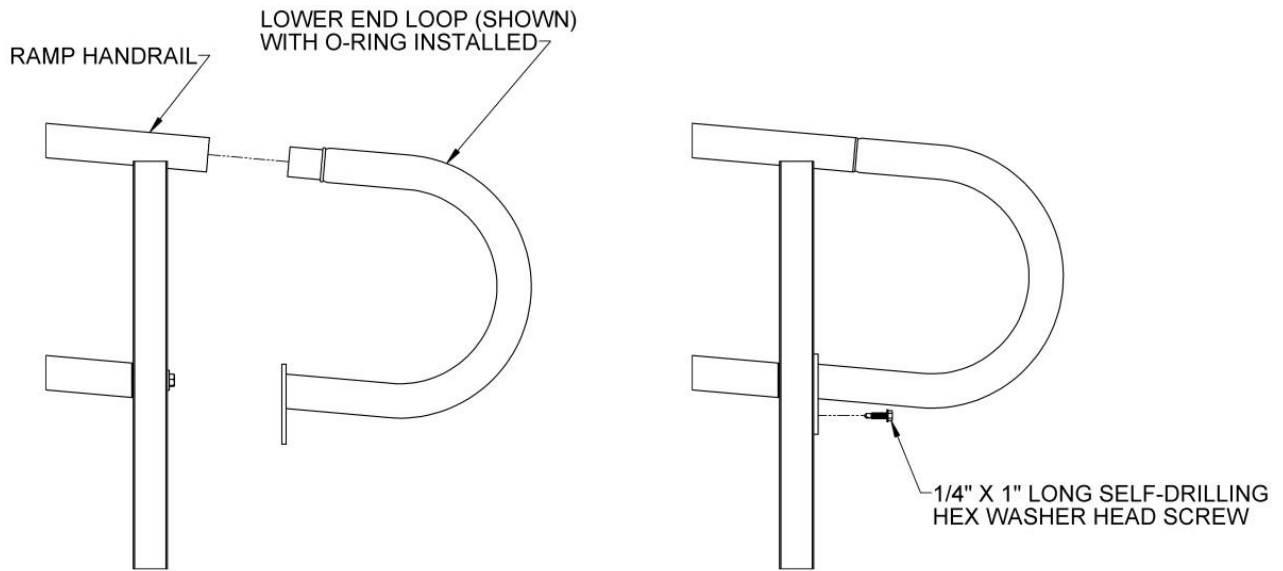

FIG. 6.6
6.1.6.1. Install one 1/4" x 1" long hex washer head self-drilling screw through the hole in the connector plate into the ramp handrail post and tighten securely (FIG. 6.6).